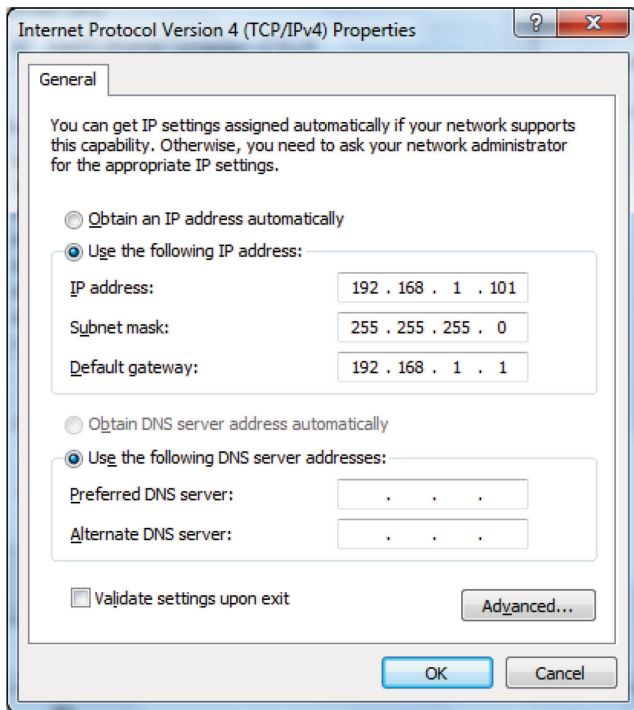

Figure 4. Configuring Internet Protocol Version 4 (TCP/IPv4) Properties.
4. Insert the following information, and press **OK** (Figure 4, next page).